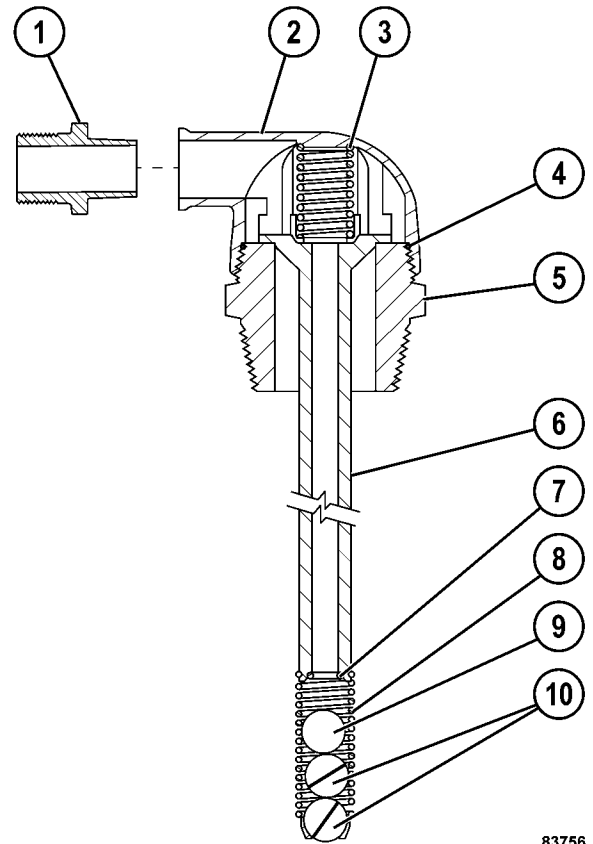

FIGURE 4-2. VENT ASSEMBLY (PB9887)
1. Remove fitting (1, Figure 4-2) from body (2).
2. Remove ball cage (8), solid ball (9) and float balls (10).
3. Unscrew end fitting (5) from body (2).
4. Remove stem (6) and valve spring (3).